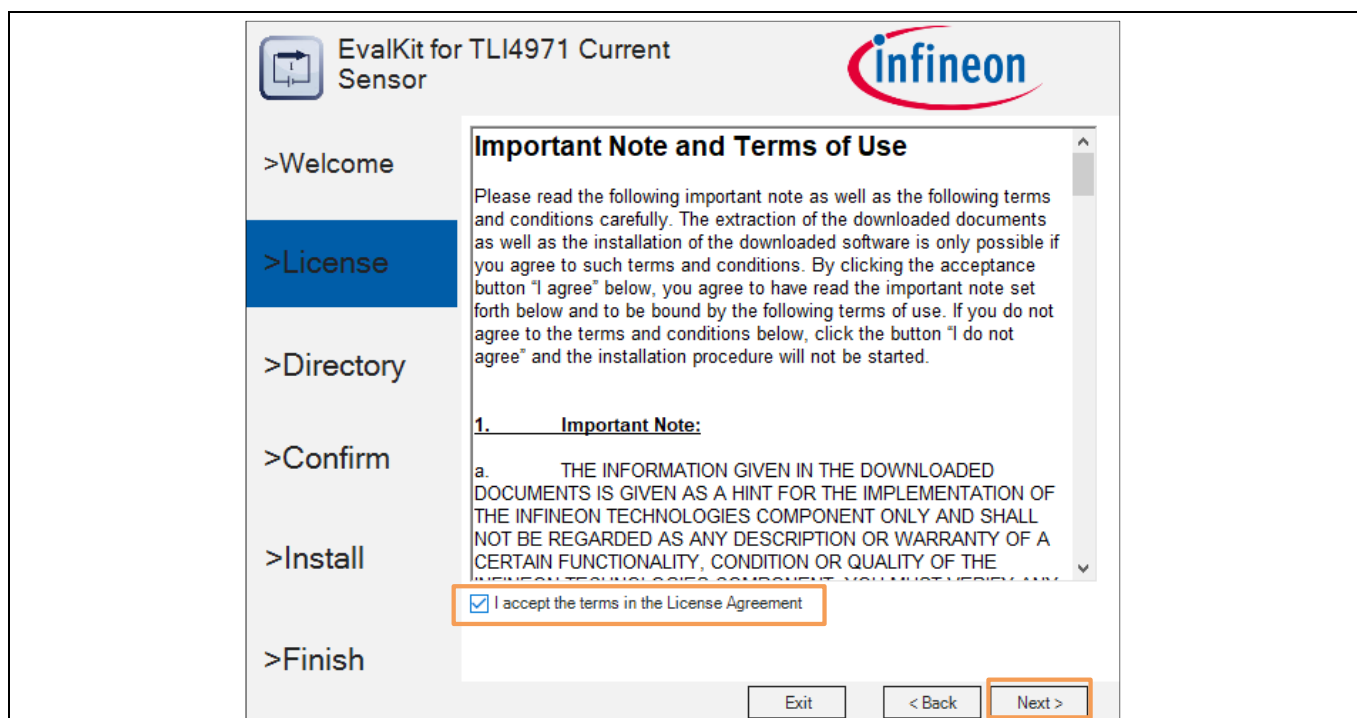

Figure 23 EvalKit Installer 1.0.2 – License Agreement
- Read through the license agreement carefully and continue the installation by selecting the check box of “*I accept the terms in the license agreement*”, see orange color box in Figure 23. If the license agreement is not accepted, then the installation will not continue to further steps. Click “**Next**” button to continue with the installation